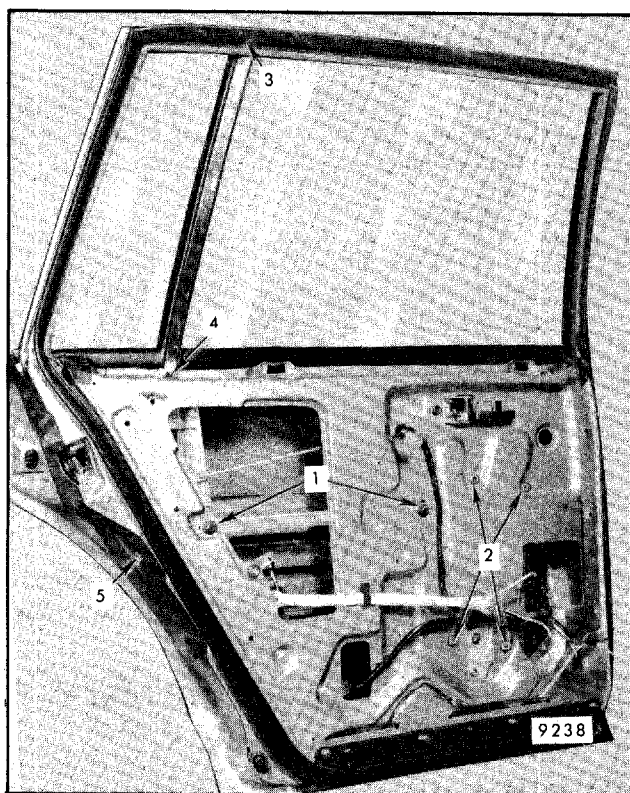

Fig. 5-147 - Rear Door Window Hardware - "K" Style
Adjustment has been provided to relieve a binding door glass due to misalignment of the ventilator division channel ("4", Fig. 5-147).
2. Mark location and remove inner panel cam attaching screws ("1", Fig. 5-147); then remove inner panel cam.
The stationary vent division channel is held in place by three attaching screws (Fig. 5-147). This assembly acts as a rear door window rear glass run channel and also holds the stationary vent window in proper position.
2. Remove three stationary vent division channel attaching screws ("3", "4", "5", Fig. 5-147).
5. To install, reverse removal procedure. Tighten channel attaching screws ("4" and "5", Fig. 5-147) to 72 in-lb. Tighten upper attaching screw ("3", Fig. 5-147) with hand screwdriver.
2. Mark location and remove inner panel cam attaching screws ("1", Fig. 5-147) and inner panel cam.